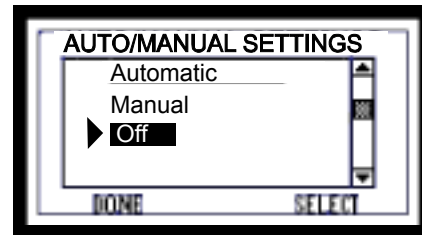

Figure 14.1
- Set wall control to OFF on AUTOMATIC / MANUAL SETTING screen. **Figure 14.1.**
After servicing, restart with the AUTO/MANUAL SETTINGS screen. **Figure 14.1.**